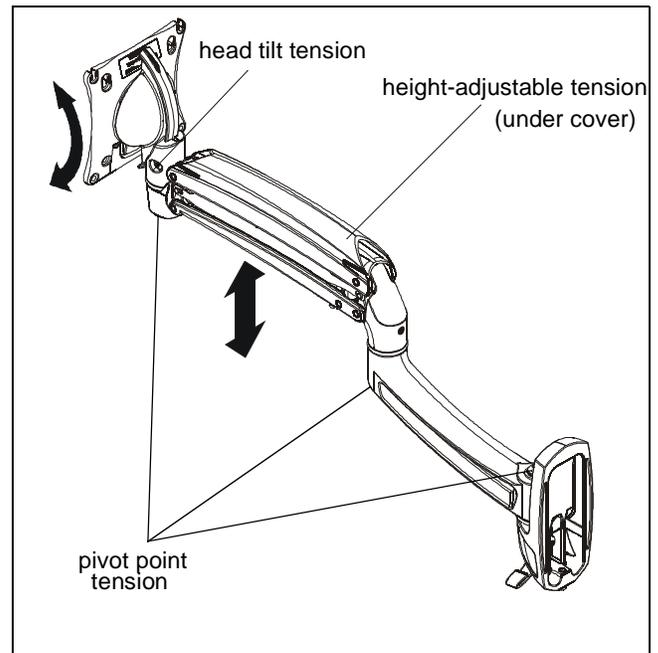

Figure 6
1. Adjust head tilt to desired tilt position. (See Figure 6)
2. Adjust head tilt tension screw to change the adjustment tension. (See Figure 6)
1. Adjust height to desired level. (See Figure 6)
2. Use 1/8" hex key (J) to adjust height-adjustable tension screw to change adjustment tension. (See Figure 6)
1. Adjust pivot position as desired. (See Figure 6)
2. Use 3/16" hex key (H) to adjust pivot point tension screws to change pivot adjustment tension. (See Figure 6)